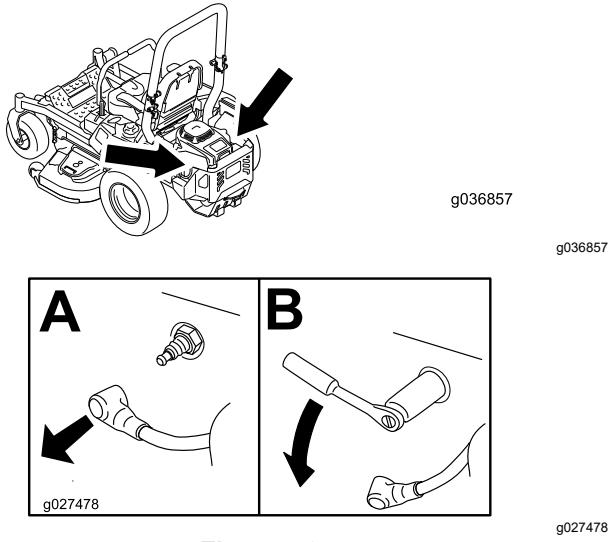

Figure 46
4. Locate and remove the spark plug(s) as shown in Figure 46.